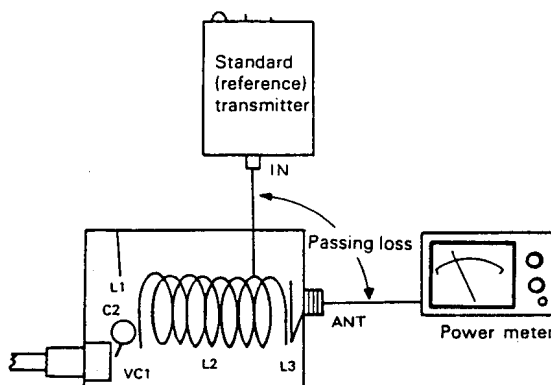

Fig. 27
This adjustment is to be effected with a standard transmitter (such as TR-7200A or G) connected as shown in Fig. 27. The calibrated and adjusted to produce a 145.0 MHz output of about 10 watts at 50 ohms.
- 1) Referring to Fig. 27, have FINAL set in 146 (700A), 145 (700G) position.
- 3) Adjust C2 position and L2 spacing so that the passage loss will be less than 10%, that is will not exceed 1 watt where the standard transmitter, mentioned above, is used in the hook-up illustrated in Fig. 27.